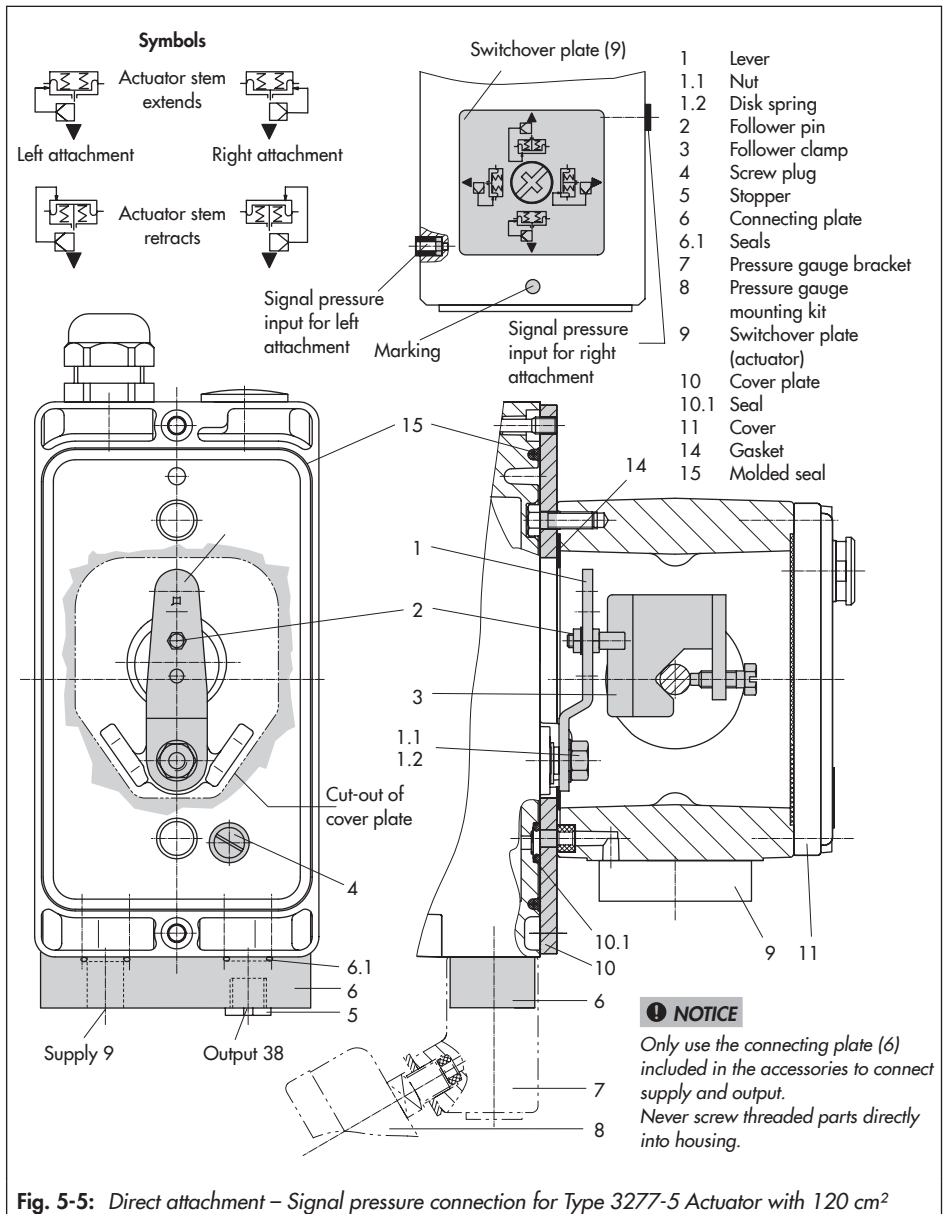

Fig. 5-5: Direct attachment – Signal pressure connection for Type 3277-5 Actuator with 120 cm2
##### **Actuator with 120 cm2** (see Fig. 5-5)
4. Mount cover plate (10) with narrow side of the cut-out (Fig. 5-5, on the left) pointing towards the signal pressure connection. Make sure that the gasket (14) points towards the actuator yoke.
5. **15 mm travel:** Keep the follower pin (2) on the M lever (1) on the back of the positioner in the pin position 35 (delivered state).
**7.5 mm travel:** Remove the follower pin (2) from the pin position 35, reposition it in the hole for pin position 25 and screw tight.